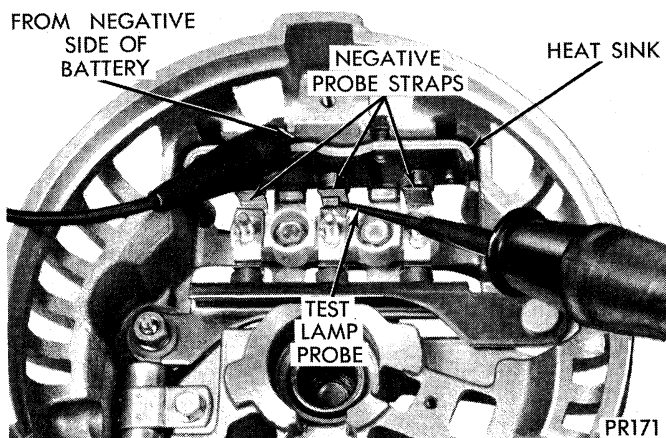

Fig. 18—Testing Negative Rectifiers With Test Lamp
(2) Reverse the probes, moving probe from rectifier heat sink to rectifier strap and the probe from rectifier strap to rectifier heat sink, (Fig. 18).